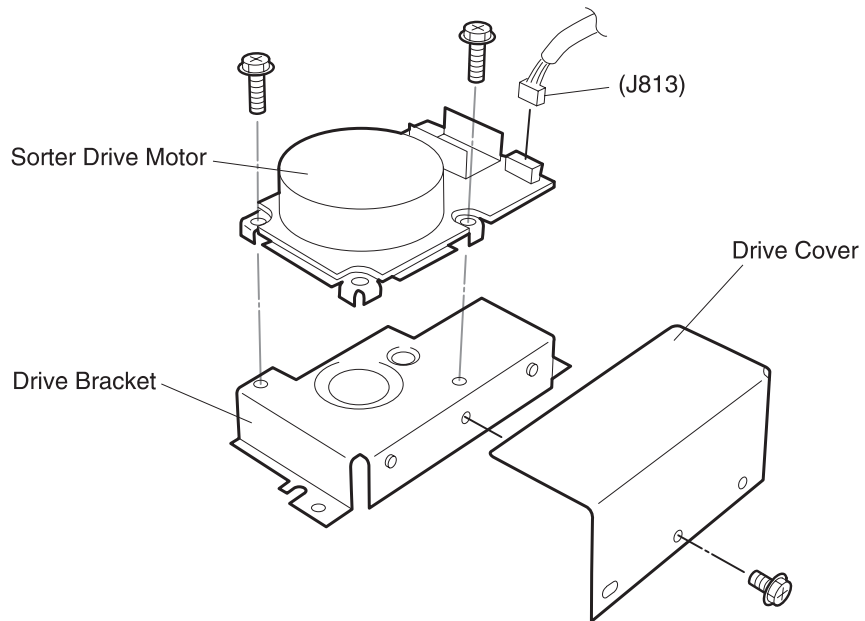

Figure 2
5. Remove the screw securing the Mailbox Drive Cover to the Mailbox Drive Bracket, and remove the Cover (Figure 2).
7. Remove the two screws securing the Mailbox Drive Motor to the Mailbox Drive Bracket, and remove the Motor (Figure 2).
1. Reinstall the Mailbox Drive Motor to the Mailbox Drive Bracket, and use two screws to secure the Motor to the Bracket (Figure 2).